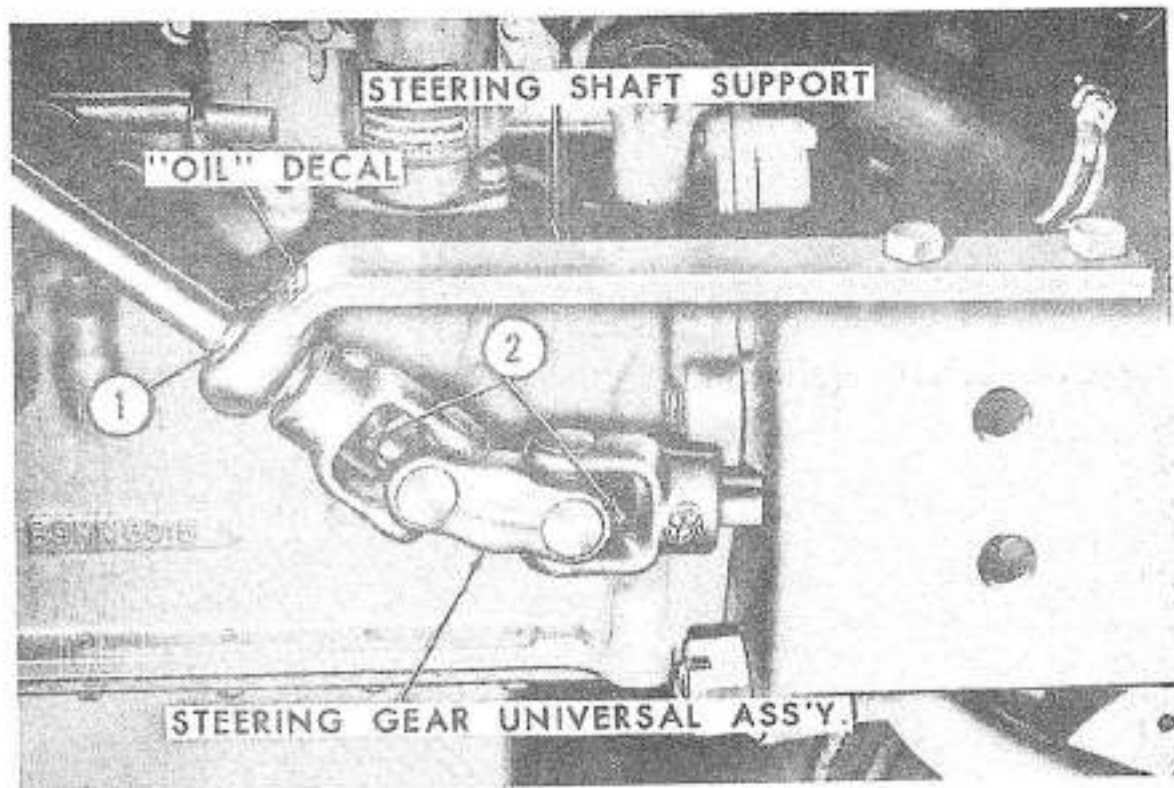

Figure 9
The Universal Joints at the lower end of the steering shaft are both equipped with grease fittings (2), Figure 9. Clean the fittings and apply pressure gun grease after every 100 hours of operation. Oil the steering shaft support bearing (1), with light engine oil after every 10 hours of operation.